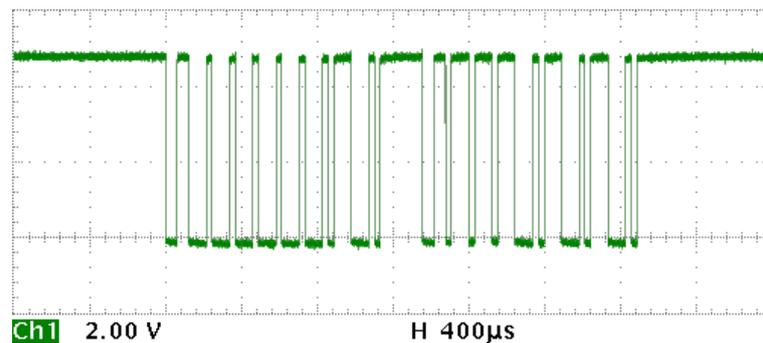

Figure 1: ZACwire™ signal plot
In the last exercise, you have decoded the DCF77 time signal. For reasons of simplicity, we used sampling to decode the signal. In this lab course exercise, we will analyze a different type of signal with a different digital communication protocol. The protocol we are interested in is called ZACwire™ and our “communication partner” is a TSic™ 306 temperature sensor. Figure 1 shows an example oscilloscope plot of the ZACwire™ signal.
- Verify that you can manually decode the signal plot shown in figure 1 as 22.9 °C.